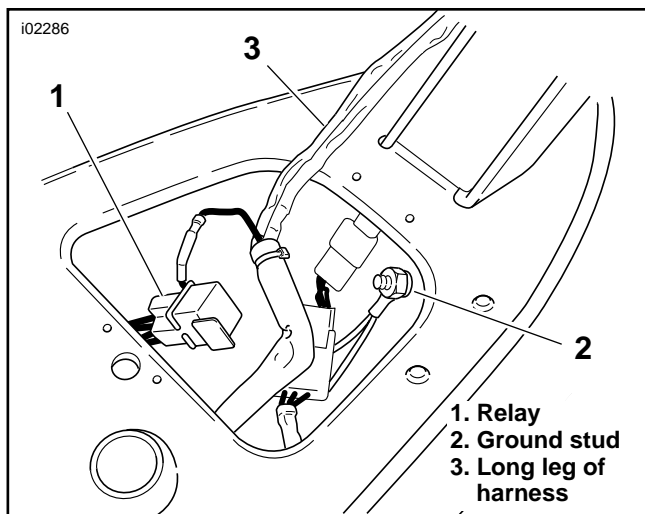

Figure 5. Install the Wiring Harness (Dyna Model Shown)
11. See Figure 5. Install the wiring harness. Place the relay (1) in the opening in the seat pan, and route the long leg of the harness (3) along the frame backbone.